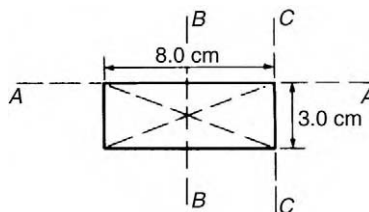

Figure 7.19
- Determine the second moment of area and radius of gyration for the rectangle shown in Figure 7.19 about (a) axis *AA* (b) axis *BB* and (c) axis *CC*